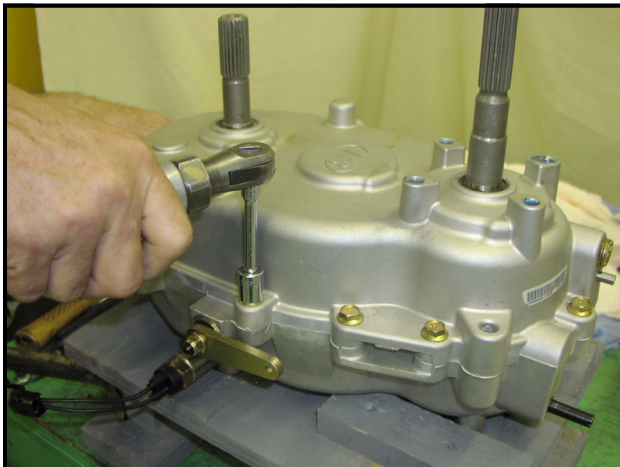

Figure 8-90 Install Case Bolts
15. Install the case bolts and tighten the middle area of the case in a criss-cross pattern first, then the ends of the case also in a criss-cross pattern to 25 ft-lb (34 N·m) (**Figure 8-90, Page 8-26**).